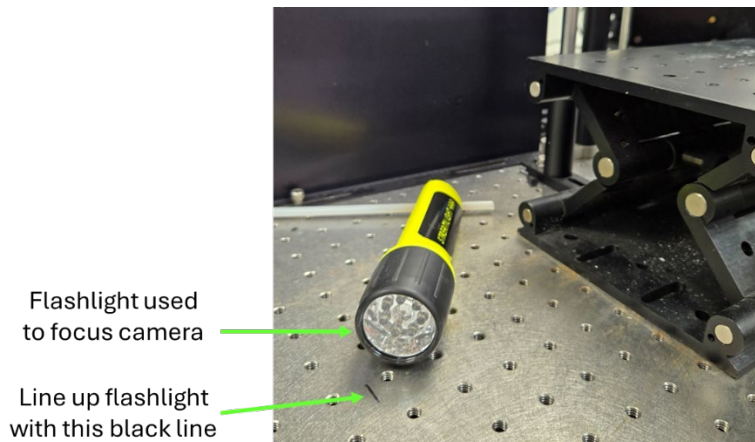

Figure 22. Flashlight and black line used to focus the camera.
- Use flashlight with ring of LEDs to fix the focus of camera at the set position (Figure 22)
- Use flashlight with ring of LEDs (Figure 22) to focus the camera at the laser focal position on the sample surface instead of the black line on the table